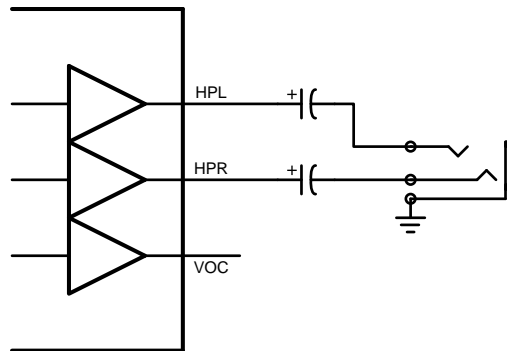

Figure 52. Capacitor Coupled Headphone Mode
In capacitor coupled (CC) mode, the VOC pin is disabled, and the headphone outputs are coupled to the jack through series capacitors, allowing the headphone return to be connected to GND (Figure 52). In CC mode, the LM49270 requires output coupling capacitors to block the DC component of the amplifier output, preventing DC current from flowing to the load. The output capacitor and speaker impedance form a high pass filter with a -3dB roll-off determined by: